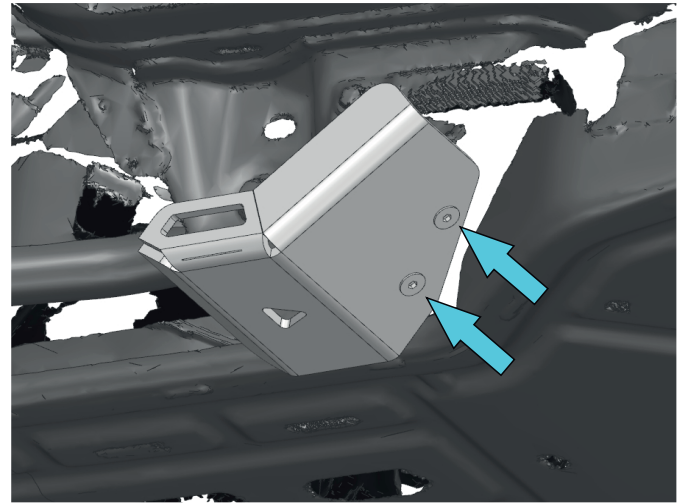

Fig. 2
2. Install the rear arm skid plate (right) (item 2) in factory mounting points using screws M6x20 (item D) (Fig. 2).